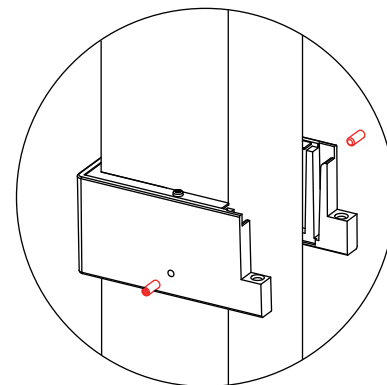

Fig. 2
**Step 2:** Take two M6×16 set screws from the universal screw kit and secure the fastening bracket onto the square pole (Torque: 10 N·m). See fig.2